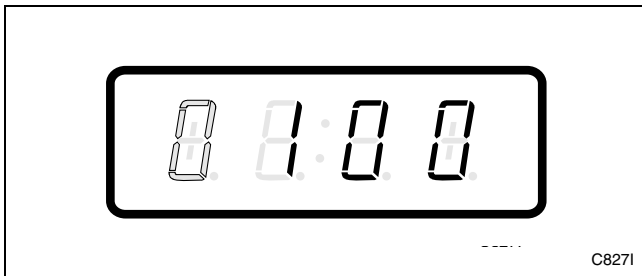

Figure 17
6. Press the START (enter) keypad to enter the fifth digit and display remaining four digits. The active digit will flash one second on and one second off. Refer to *Figure 17*.